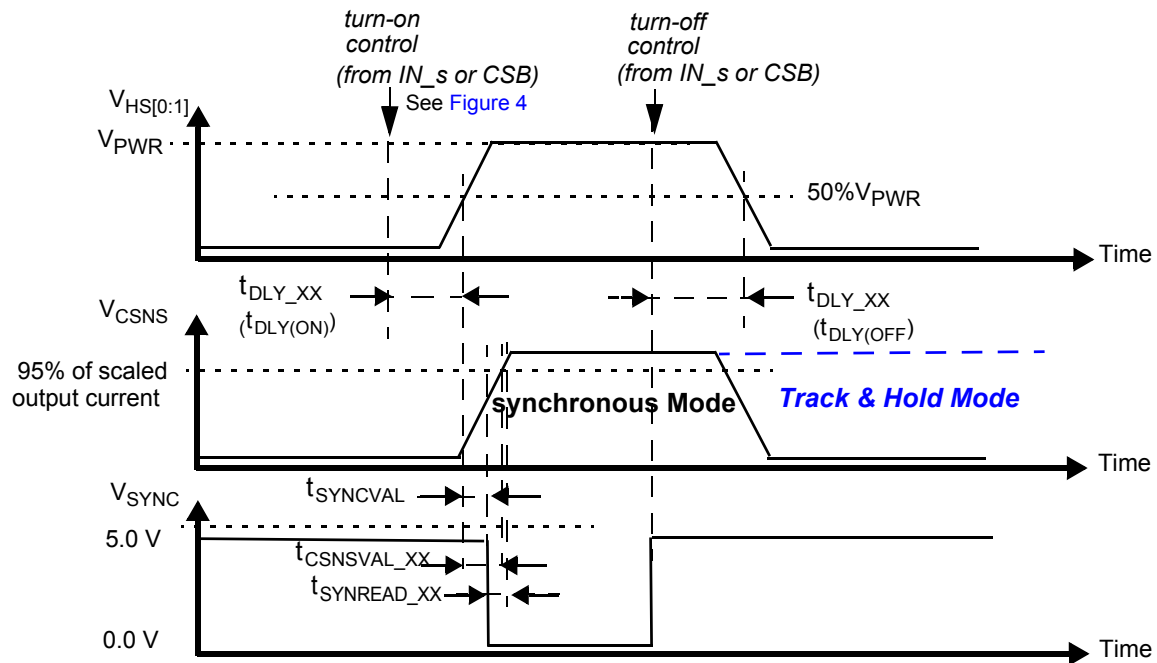

Figure 9. Synchronous & Track-and-Hold Current Sensing Modes: Associated Delay & Settling Times
32. Time required to switch off the channel after detection of overtemperature (OT), overcurrent (OC), SC or UV error (time measured between start of the negative edge on the FSB pin and the falling edge on the output voltage until $V(\text{HS}[0:1]) = 50\%$ of V_{PWR}).
33. Settling time ($= t_{CSNSVAL_XX}$), SYNC output signal delay ($= t_{SYNCVAL_XX}$) and Read-out delay ($= t_{SYNREAD_XX}$) are defined for a stepped load current ($100\text{ mA} < I(\text{LOAD}) < I_{OCLX\text{ A}} \text{ FOR } \text{CSNS_RATIO_S} = 1$, AND $300\text{ mA} < I(\text{LOAD}) < I_{OCLX\text{ A}_0} \text{ FOR } \text{CSNS_RATIO_S} = 0$). (see Figure 9 and Output Current Monitoring \(CSNS\))
34. Settling time ($= t_{\text{CSNSVAL_XX}}$), SYNC output signal delay ($= t_{\text{SYNCVAL_XX}}$) and Read-out delay ($= t_{\text{SYNREAD_XX}}$) are defined for a stepped load current ($100\text{ mA} < I(\text{LOAD}) < I_{\text{OCLX A FOR CSNS_RATIO_S}} = 1$, AND $300\text{ mA} < I(\text{LOAD}) < I_{\text{OCLX A_0 FOR CSNS_RATIO_S}} = 0$). (see Figure 9 and Output Current Monitoring \(CSNS\))
The CS pin allows independent current monitoring of channel 0 or channel 1 up to the steady-state overcurrent threshold. It can also be used to sense the device temperature. The different functions are selected by setting bits CSNS1_en and CSNS0_en to the appropriate value (Table 23). When the CSNS pin is sensed during switch-off in the (optional) track & hold mode (see Figure 9), it outputs the scaled value of the load current as it was just before turn-Off. When several devices share the same pull-down resistor, the CSNS pins of devices the current of which is not monitored must be tri-stated. This is accomplished by setting CSNS0_en = 0 and CSNS1_en = 0 in the GCR register (Table 10). Settling time ($t_{CSNSVAL_XX}$) is defined as the time between the instant at the middle of the output voltage's rising edge ($HS[0:1] = 50\%$ of V_{PWR}), and the instant at which the voltage on the CSNS-pin has settled to $\pm 5.0\%$ of its final value. Anytime an overcurrent window is active, the CSNS pin is disabled (see Overcurrent Detection on Resistive and Inductive Loads). The current and temperature sensing functions are unavailable in Fail-safe mode and in Normal mode when operating without the V_{DD} supply voltage. In order to generate a voltage output, a pull-down resistor is required ($R(CSNS)=1.0\text{ k}\Omega$ typ. and $470 < R(CSNS) < 10\text{ k}\Omega$). When the current sense resistor connected to the CSNS pin is disconnected, the CSNS voltage is clamped to $V_{CL(CSNS)}$. The CSNS pin can source currents up to about 5.6 mA.
To synchronize current sensing with an external process, the SYNC signal can be connected to a digital input of an external MCU. SYNC is asserted logic low when the current sense signal is accurate and ready to be read. The current sense signal on the CSNS pin has the specified accuracy $t_{SYNCREAD_XX}$ seconds after the falling edge on the SYNC pin (Figure 9) and remains valid until a rising edge is generated. The rising edge that is generated by the SYNC pin at the turn-OFF instant (internal or external) may also be used to implement synchronization with the external MCU. Parameter $t_{SYNCVAL_XX}$ is defined as the time between the instant at the middle of the output-voltage rising edge ($HS[0:1] = 50\%$ of $VPWR$), and the instant at which the voltage on the SYNC-pin drops below 0.4 V (V_{SOL}). The SYNC pins of different devices can be connected together to save μ -controller input channels. However, in this configuration, the CSNS function of only one device should be active at a time. Otherwise, the MCU does not determine the origin of the SYNC signal. The SYNC pin is open drain and requires an external pull-up resistor to VDD.